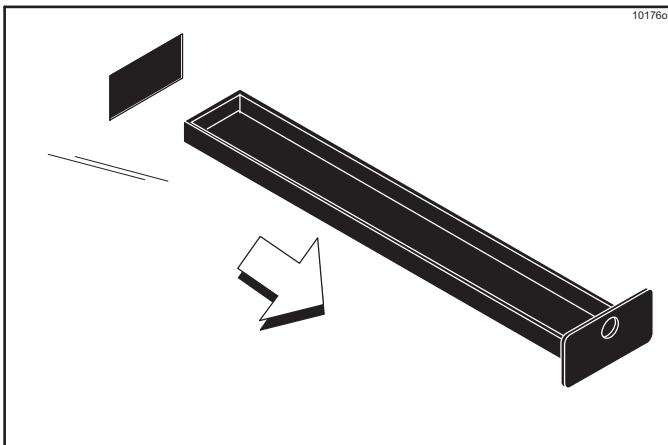

Figure 6-42
8. Remove all drip pans. Take all parts removed in steps 1 through 8 to the sink for cleaning. (See Figure 6-42.)